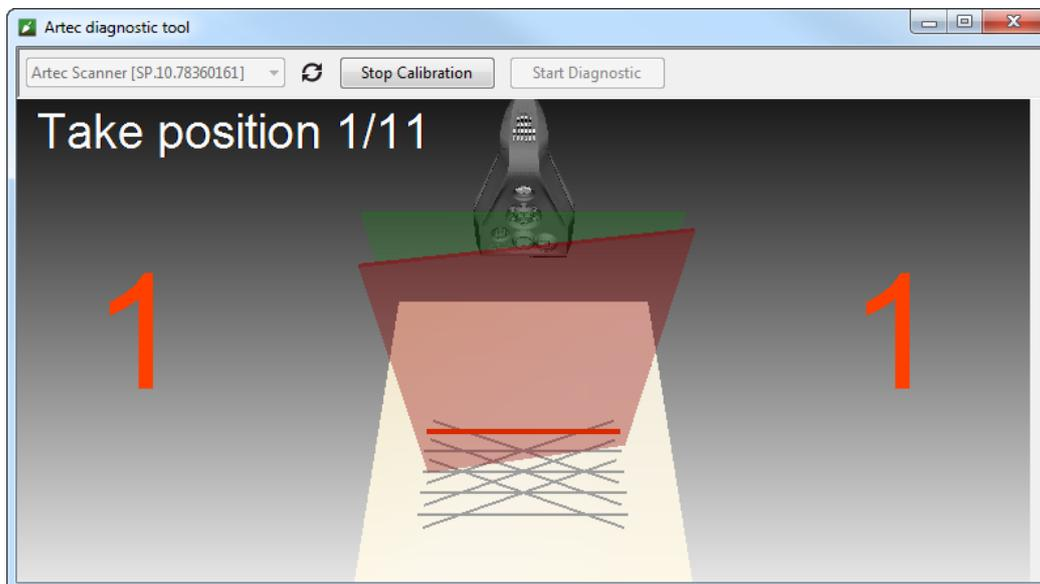

Figure 138: Moving calibration rig to position number 1.
7. Place the rig in its initial position such that the front edge of its base coincides with the color line numbered 1 on the pattern. As you do so, also keep an eye on the *3D View* window for a red plane (current position) and a green plane (target position)—see Figure 138. Once the red plane coincides with the green one, stop moving the rig and wait for the scanner to capture the plane.